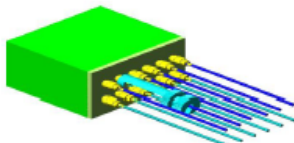

Figure-1
1. The open box wrench head is slid onto the hex nut as shown in figure-1.